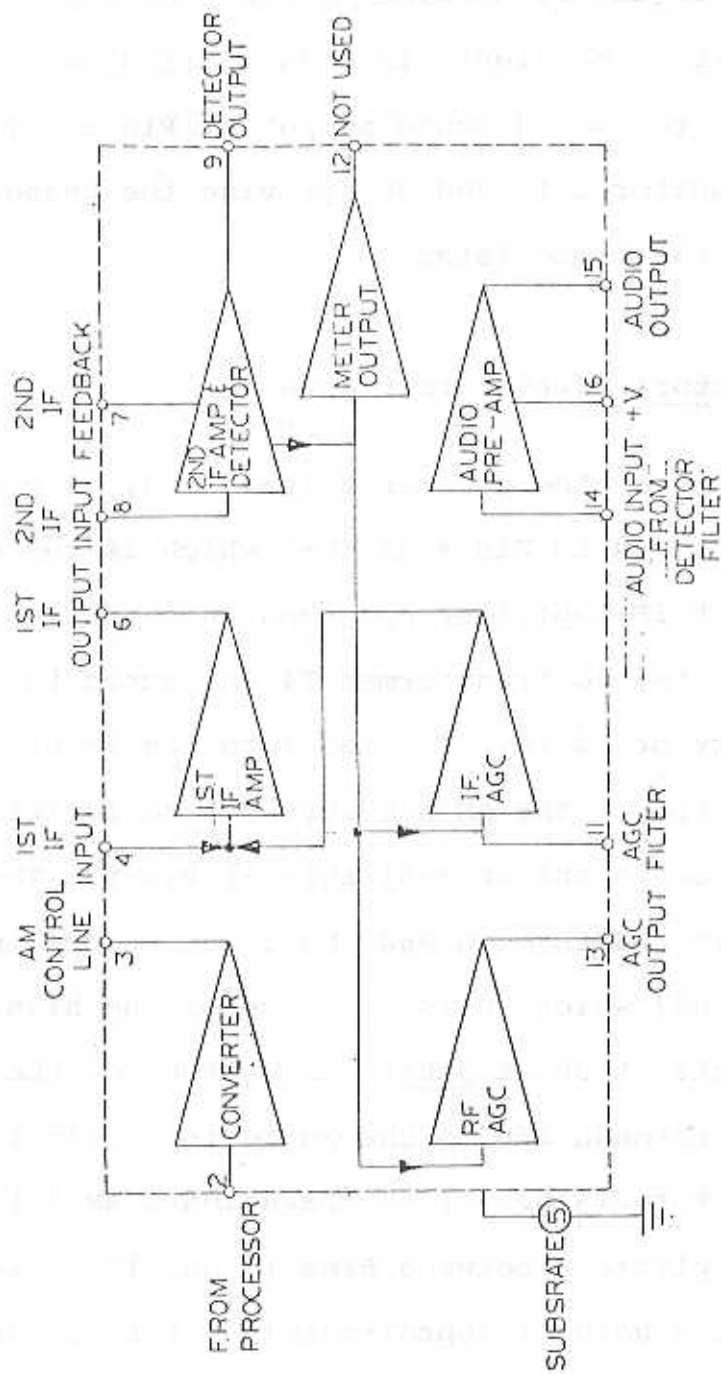

FIGURE 4
b) AM Detector: (Refer to Figure 4)